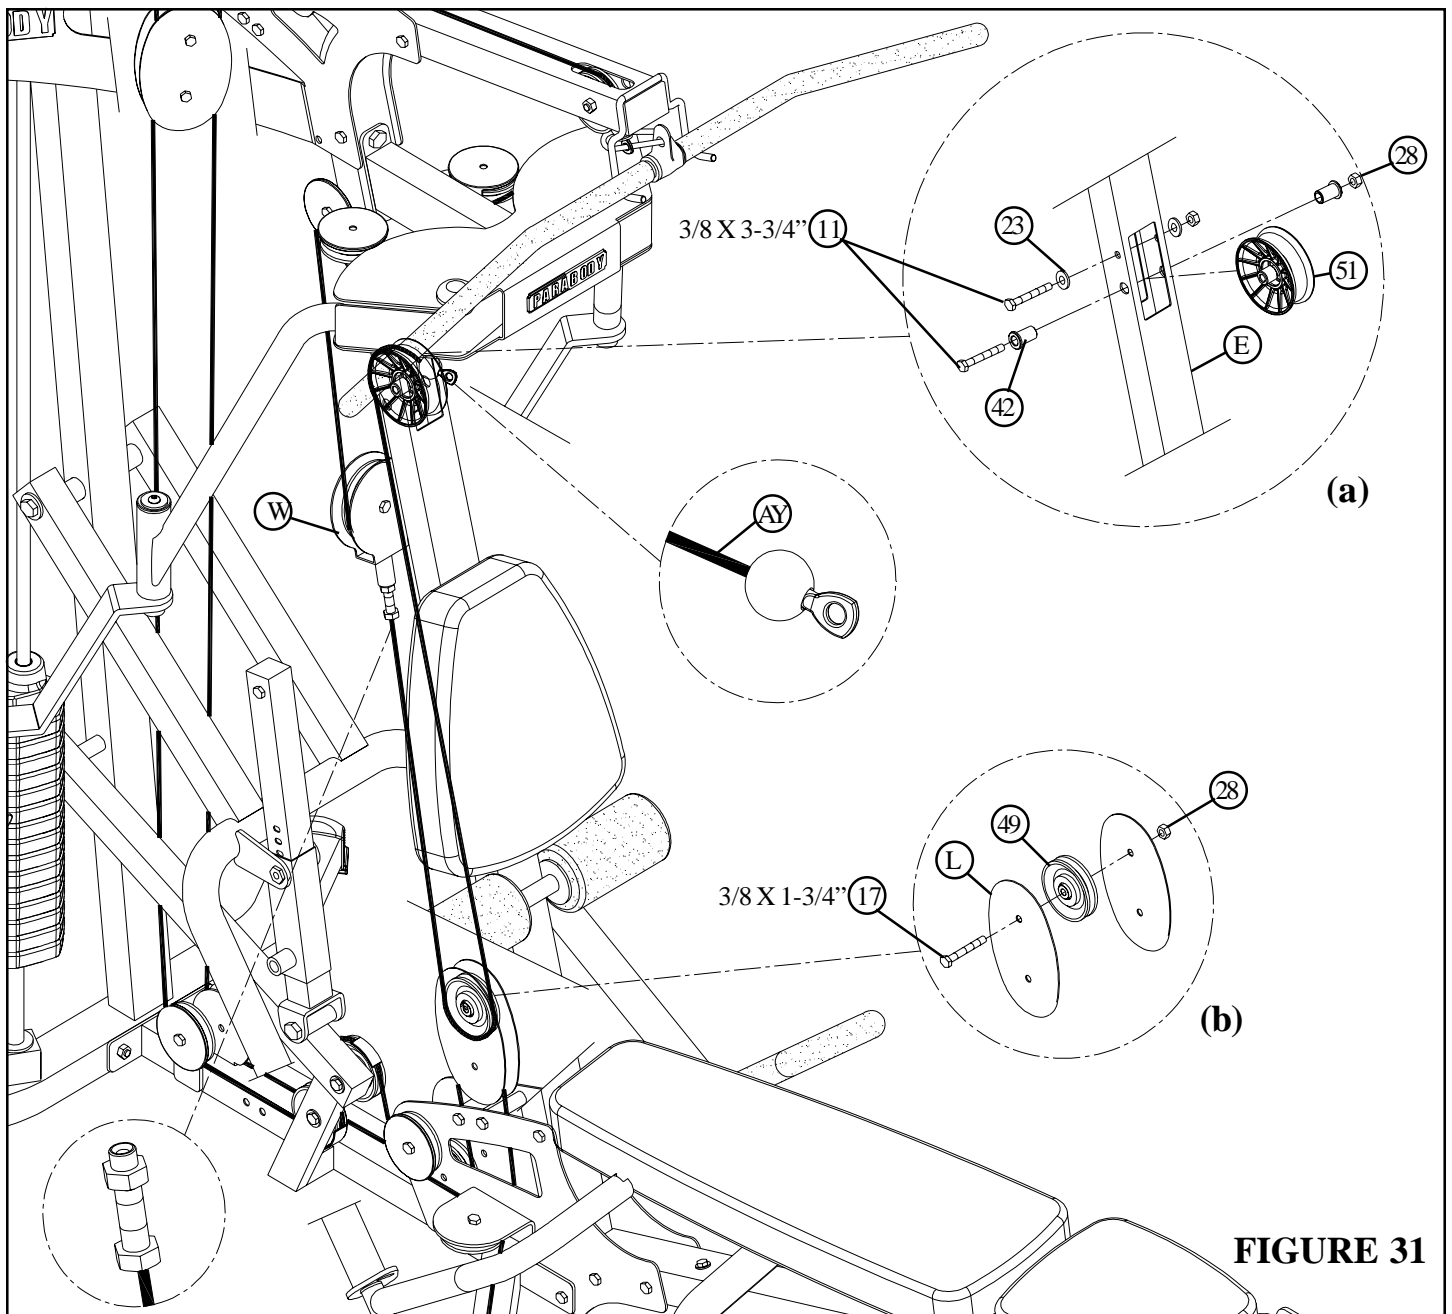

FIGURE 31
- Securely assemble the ball end of the AB CRUNCH CABLE (AY) and one 4-1/2" V-PULLEY (51) to the FRONT FRAME (E) using two 3/8 X 3-3/4" BOLTS (11), two 3/8 X 19/32" FLANGE SPACERS (42), two 3/8" WASHERS (23) and two 3/8" LOCKNUTS (28). See FIGURE 31(a) (**NOTE: The AB CRUNCH CABLE (44) should be routed underneath the retaining bolt as shown in FIGURE 31.**)
- Route the AB CRUNCH CABLE (AY) around one 3-1/2" PULLEY (49) and assemble the 3-1/2" PULLEY (49) to the PULLEY PLATES (L) using one 3/8 X 1-3/4" BOLT (17) and one 3/8" LOCK NUT (28). See FIGURE 31(b)
- Screw the threaded end of the AB CABLE (AY) into the end of the FLOATING PULLEY BRACKET (W) .See FIGURE 31.